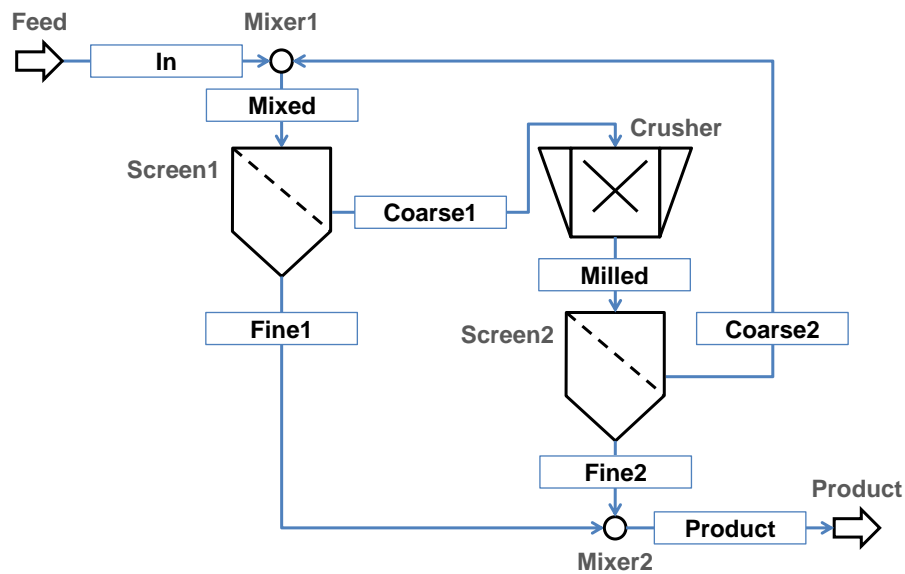

Figure 3. Flowsheet of screening process with recycle stream.
1. Create a flowsheet in Dyssol with the structure shown in Figure 3. Use the values specified below as process parameters.